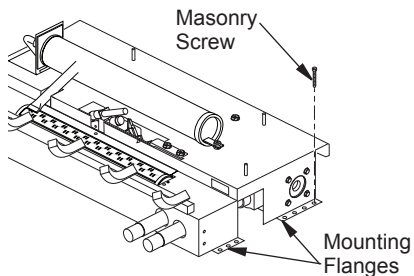

Figure 12 - Attaching Base Assembly to Fireplace Floor
7. Mark screw locations through holes in mounting flanges (see Figure 12). If installing in a brick-bottom fireplace, mark screw locations in mortar joint of bricks.
10. Attach base assembly to fireplace floor using two masonry screws (in hardware package) (see Figure 12).